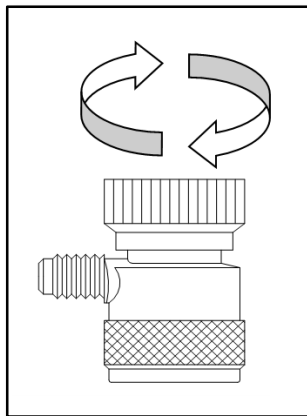

Figure 1
The **RED** and **BLUE** quick couplings with safety closure have to be opened by rotating as depicted in Figure 1:
6. Open the quick couplings (see Figure 1).